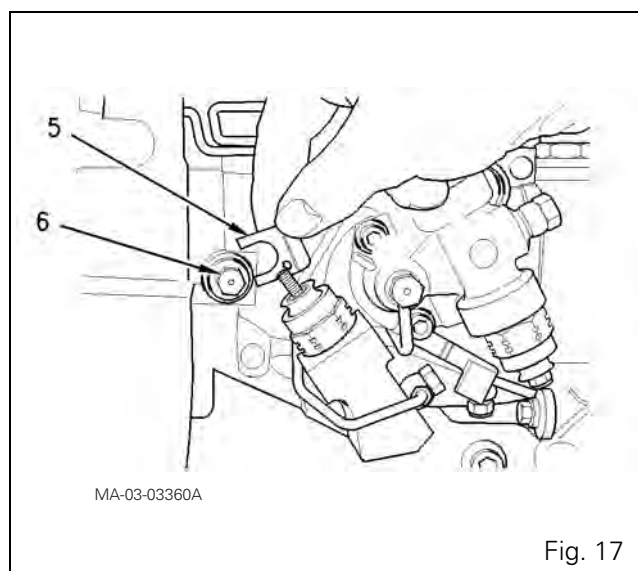

Fig. 17
87. Loosen the lock screw (6). Shift the spacer (5) to allow the lock screw (6) to lock the pump pin. Turn the pump pin anti-clockwise until slight resistance is felt (Fig. 17).